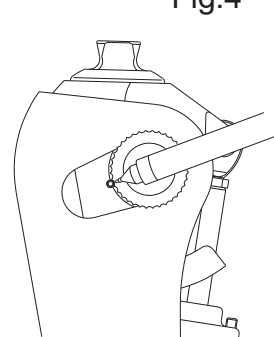

Fig.5
1. In order to provide a reference for the degree of knee axis screw tightening, apply a mark (using magic ink for example) on the root thread of the knee axis screw which is in contact with the locking screw. (See Figure 5.)